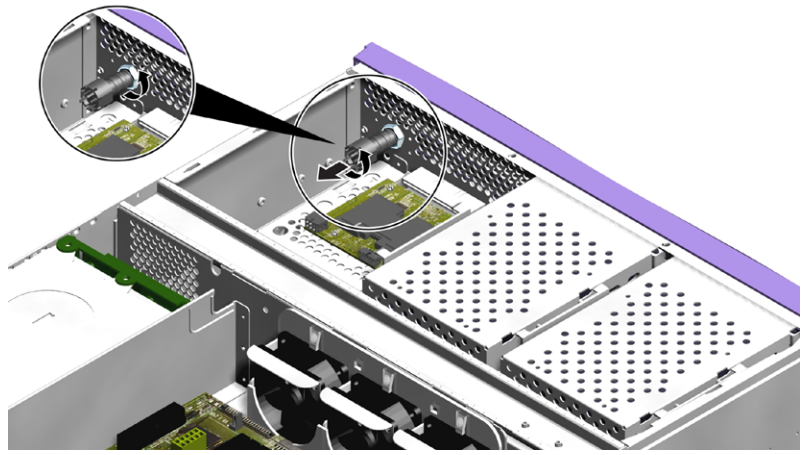

FIGURE 1-30 Removing the Keyswitch Locknut
5. Remove the locknut on the back of the keyswitch assembly (FIGURE 1-30).